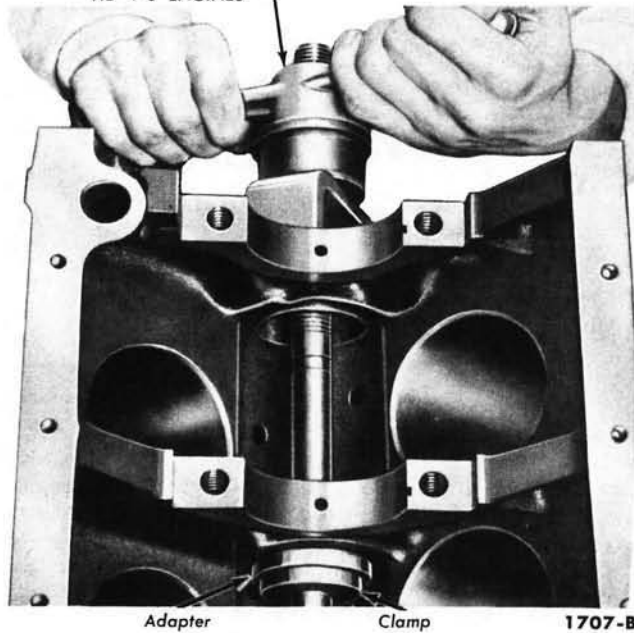

FIG. 53—Camshaft Bearing Removal or Installation—Typical
2. Drill a 1/2-inch hole in the camshaft rear bearing bore plug and use tool 7600-E to remove the plug. Remove the camshaft bearings (Fig. 53).
3. Position the bearing at the bearing bore, and press it in place (Fig. 53). **Be sure the front bearing is installed 0.005-0.020 inch (292 engine) or 0.002-0.020 inch (302 or 332 engine) below the front face of the cylinder block.** Align the oil holes in the bearings with the oil holes in the cylinder block when the bearings are installed. Particular care should be taken with the No. 3 bearing since it supplies oil to the valve rocker arms.